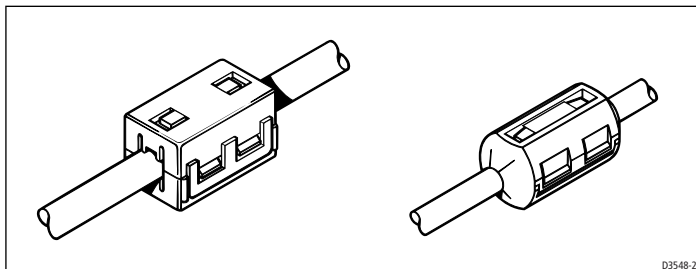

Figure 1
*Figure 1* shows typical cable suppression ferrites used with Raymarine equipment. Always use the ferrites supplied by Raymarine.